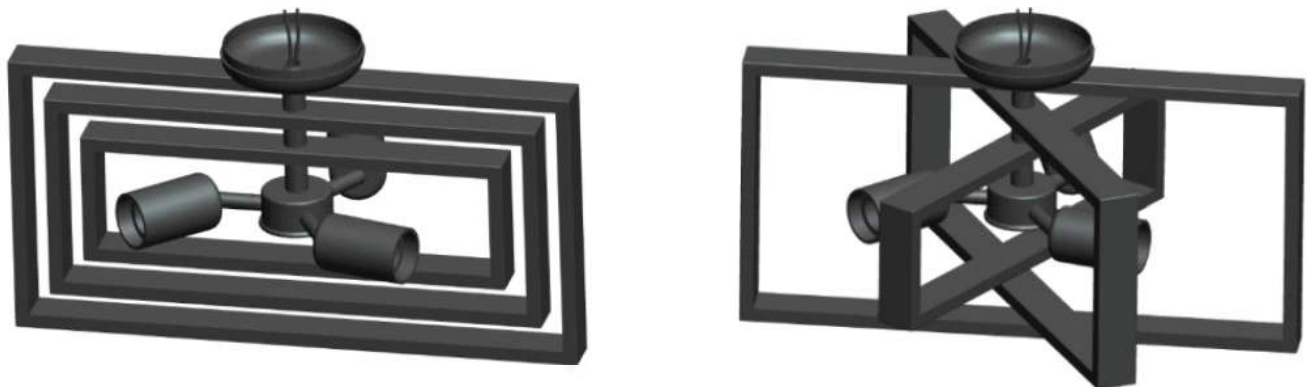

Fig 7.1
7.1 Take out the light assembly and rotate it as like the shape in Fig 7.1.